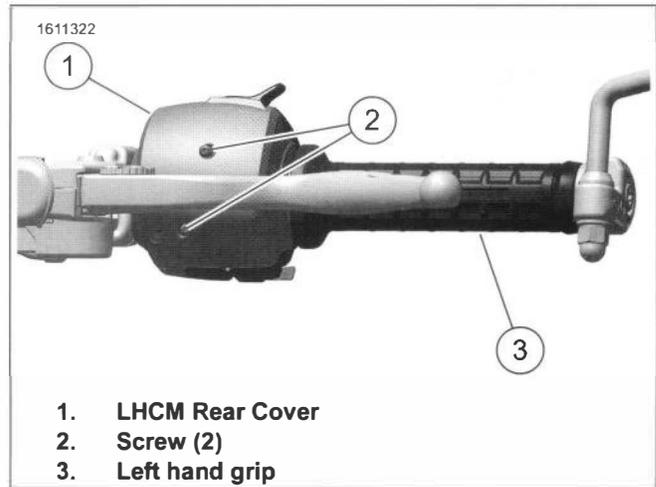
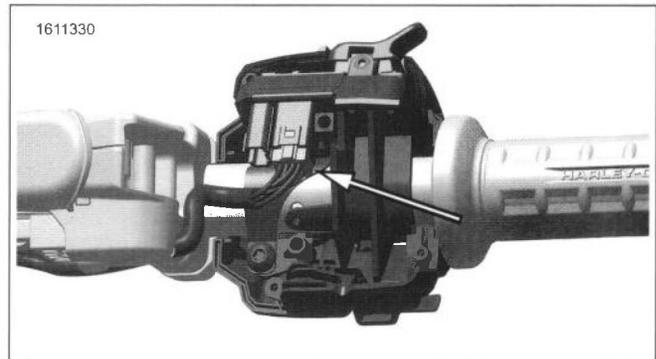

Figure 8-27. LHCM Rear Cover
Figure 8-28. LHCM Connector
1. See Figure 8-27. Remove rear cover (1).
- a. Remove screw (2).
2. See Figure 8-28. Remove connector.
2. See Figure 8-28. Connect connector.
3. See Figure 8-27. Install rear cover.
- a. Position rear cover (1).
- b. Install screws (2). Tighten.